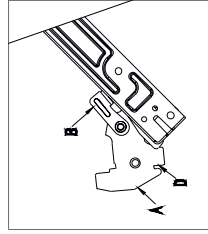

Fig. 11-1
1. Open the door completely and lift the 2 levers "B" (fig. 11-1).